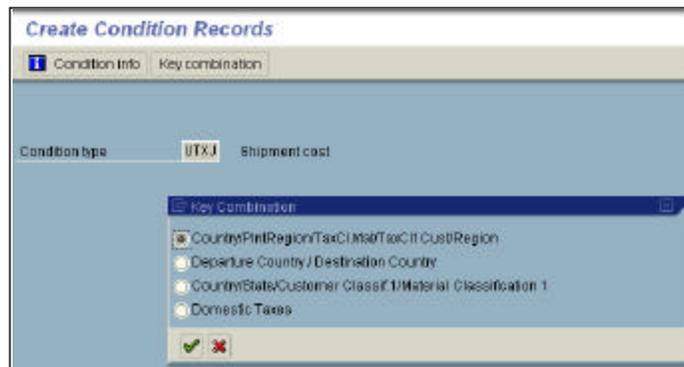

Figure 48: Creating a tax record
2. Select the first table as shown in Figure 48 to maintain the records and press enter.